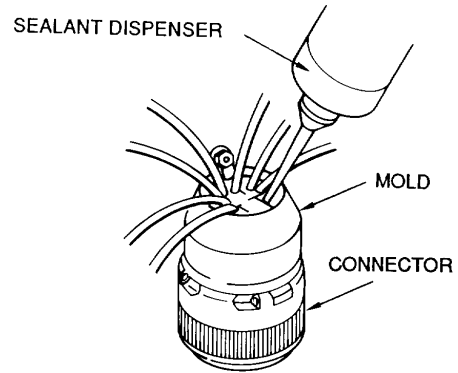

Figure 11. Injecting Sealant
(1) Install potting boot ring.
(2) Snap potting boot over lip of potting boot ring.
(3) Apply sealant.
d. Insert nozzle between wires as close as possible to connector insert without touching it. Inject sealant slowly, moving nozzle back from connector as compound fills mold. Ensure no bubbles are trapped during injection (Figure 11).